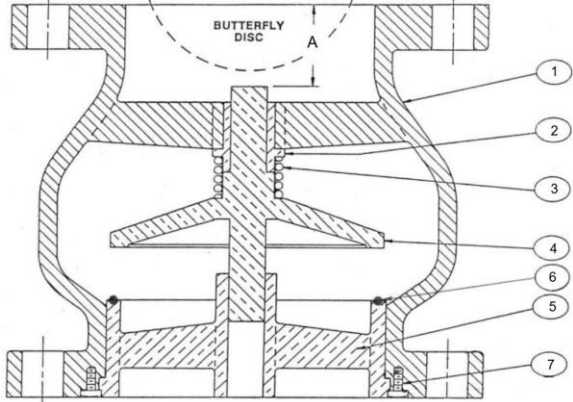
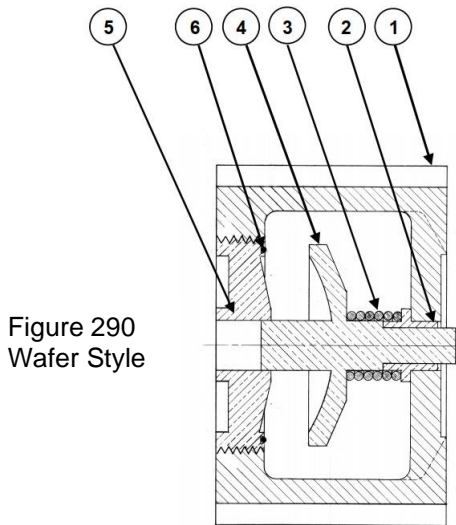

Figure 280 Globe Style
Figure 290
Wafer Style: The wafer style valve has a compact body designed to be clamped between two flanges. Figure 290-U can be installed between ANSI Class 125 or Class 250 flanges while the Figure 290-D can only be installed between ANSI Class 125 flanges.
Both styles have an iron body and either bronze or stainless-steel internal metal components. The valve seals drop tight when the plug mates with a replaceable rubber O-ring retained in a dove-tail groove in the seat. The seat in Figure 280 globe style valves is retained in the body by screws for transportation and installation in the pipeline. However, once installed, the seat is retained by the mating flange. Do not remove the upstream piping/flange while the downstream system is pressurized, or the seat may be dislodged from the body. The seat in wafer style Figure 290 valves is threaded into the body so no screws are used. Refer to Page 4 for details of construction and parts location.
Set the valve on a flat, stable surface with the flow arrow pointing down. For Figure 280 globe style valves, remove the screws (7) and lift out the seat (5), plug (4), spring (3) and bushing (2). Note that because of the construction of 12" Figure 280 globe valves, the seat will need to be retained before disassembly. Place a metal bar or piece of wood across the seat in between the retaining screws and secure to the valve flange with C-clamps. Remove the retaining screws and slowly open the C-clamps and remove. For Figure 290 wafer style valves, unscrew the seat from the body then lift out the plug, spring and bushing.
If globe style Figure 280 install seat retaining screws (7). Note that for 12-inch valves, the bar and C-clamps must be used to compress the spring so that the seat is flush with the flange face before installing the retaining screws. If wafer style Figure 290, thread seat (4) into body